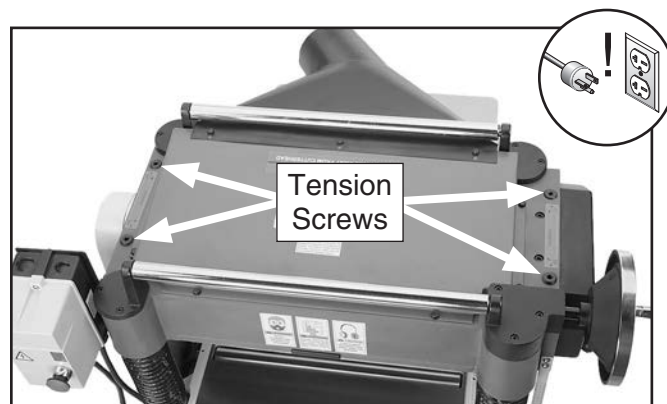

Figure 71. Roller spring tension adjustment screws.
2. Rotate tension screws clockwise to increase tension, and counterclockwise to decrease tension (see **Figure 71**).